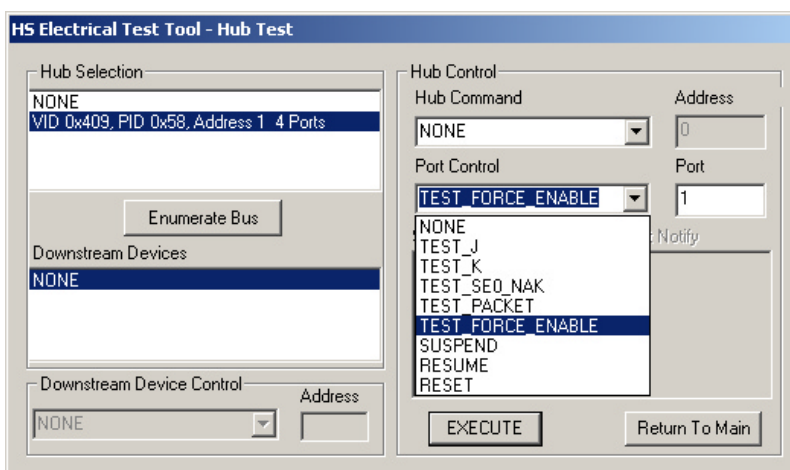

Figure 14. Force-Enable Hub Downstream Port
5. Select TEST_FORCE_ENABLE from the Port Control drop down menu. (Figure 14)